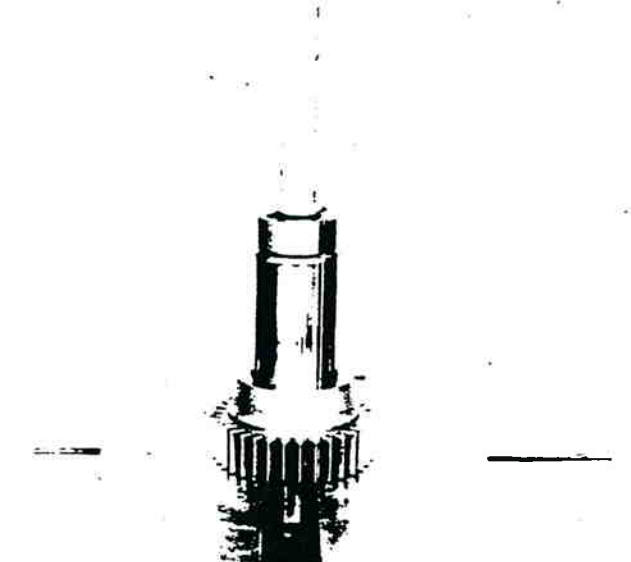

Figure 13-79. Pressing 2nd Speed Gear Off Countershaft.
5. Press the 2nd speed gear from countershaft (figure 13-79).